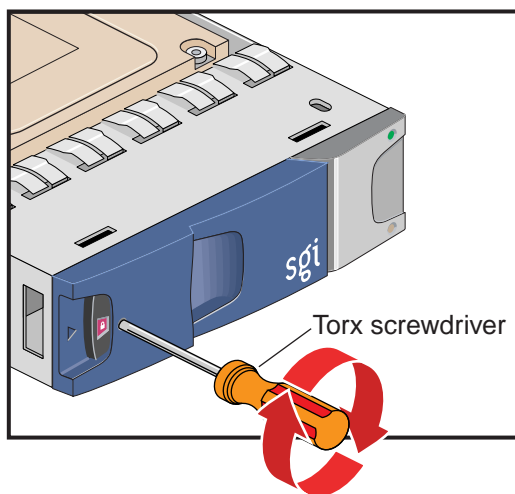

Figure 6-4 Locking the Drive Carrier Module
8. When you have finished installing the drive carrier module(s), activate the anti-tamper lock(s). Insert the key and turn it 90 degrees clockwise. The indicator in the drive carrier module turns red when the drive is locked. See Figure 6-4.